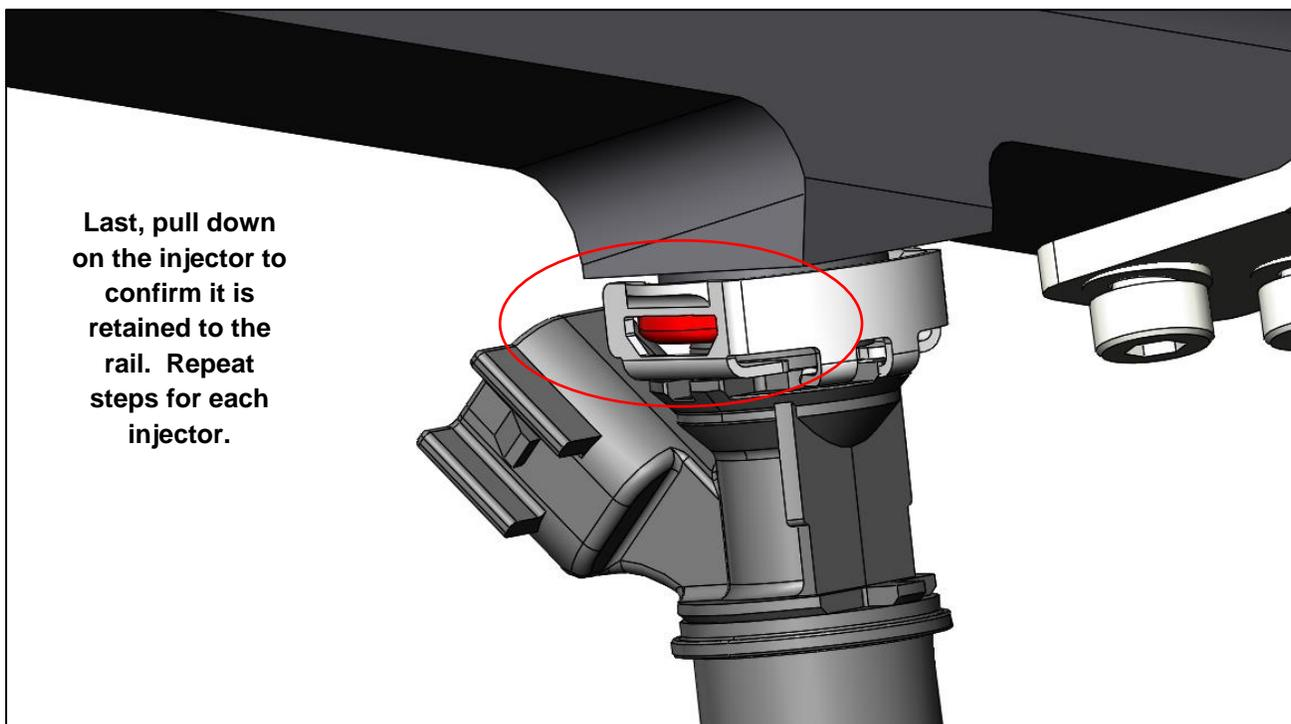

Figure 4
17. Confirm each clip is fully locked to the rail by visually inspecting the window on the sides of the clips. Then firmly pull down on the injector assuring they will not pull out (**Figure 4**).